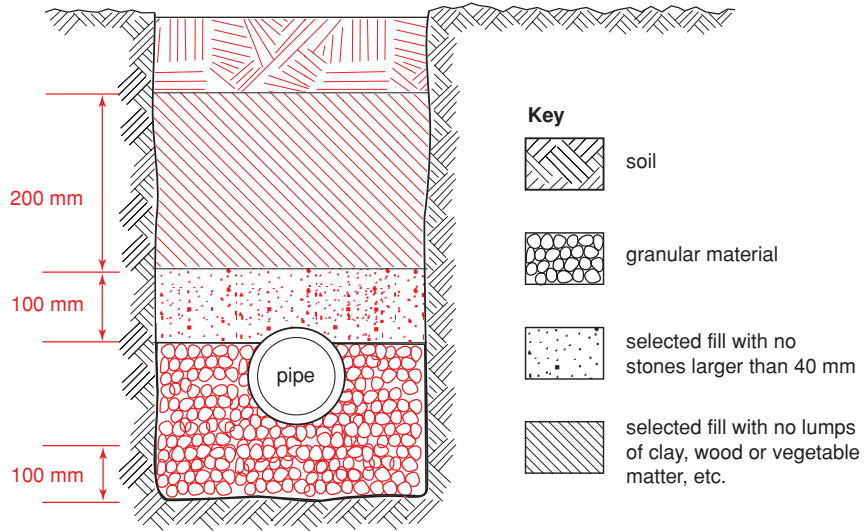

Figure 33
- (86) Complete Figure 33 to show the material, and indicate the depths of bedding material to be used when laying the 100 mm uPVC drainage pipe into the ground. (Page 331.)